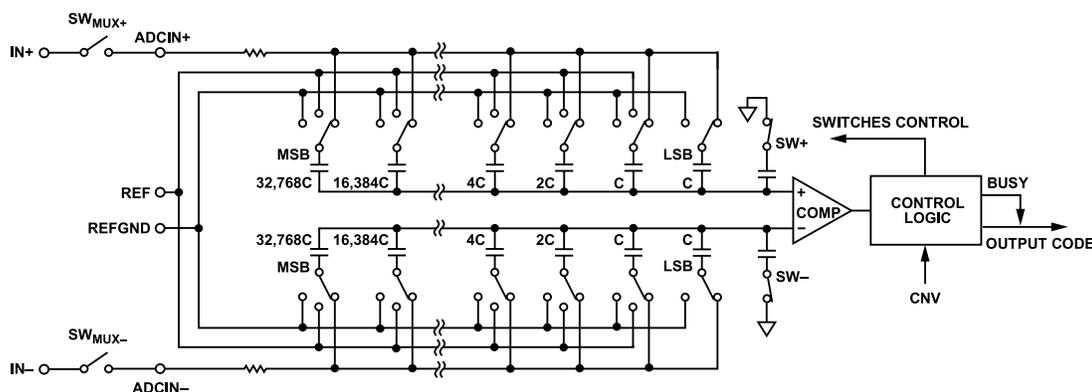
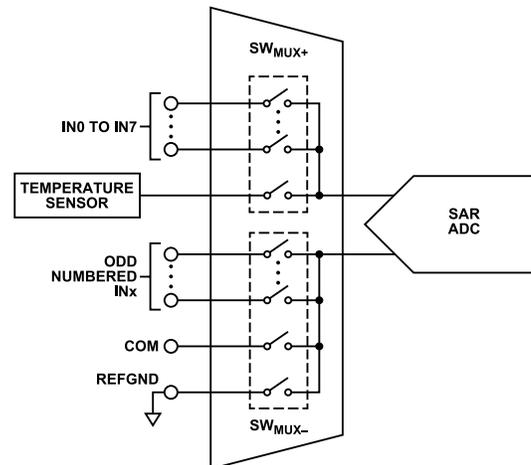
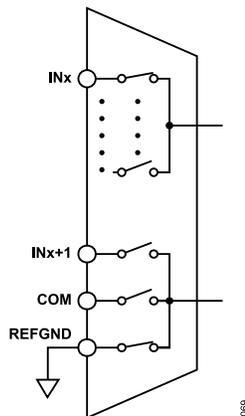

Figure 63. ADC Simplified Schematic
Figure 67. Multiplexer Simplified Schematic
Figure 68. INx Paired with REFGND
The AD4697/AD4698 contain an SAR-based ADC core that utilizes a charge redistribution digital-to-analog converter (DAC) to quantize the applied input voltage to an output code. Figure 63 shows a simplified schematic of the AD4697/AD4698 SAR ADC core.
The analog inputs and the temperature sensor are connected to the capacitor array inputs (ADCIN+ and ADCIN-) via the internal low crosstalk multiplexer, represented by SWMUX+ and SWMUX- in Figure 63. The multiplexer switches are controlled by the internal channel sequencing logic and are updated once per conversion (see the Multiplexer section and the Channel Sequencing Modes section).
A low crosstalk analog multiplexer routes the signals from the analog input pins to the ADC core inputs. The impedance of the analog inputs is modeled as the parallel combination of the pin capacitance ( $C_{PIN}$ ) and the network formed by the series connection of  $R_{IN}$  and  $C_{DAC}$ .  $R_{IN}$  represents the ADC input series resistance and the multiplexer switch resistance and is typically 240  $\Omega$ .  $C_{DAC}$  represents the ADC sampling capacitive DAC shown in Figure 63 and is typically 60 pF.
The AD4697/AD4698 contain a flexible, low crosstalk analog multiplexer for selecting from the eight analog inputs and internal temperature sensor and routing them to the inputs of the 16-bit, pseudo differential SAR, ADC core. Figure 67 shows a simplified schematic of the internal multiplexer. The  $SW_{MUX+}$  and  $SW_{MUX-}$  switches shown in Figure 63 and Figure 67 represent the multiplexer switches that route the selected channel to the ADC inputs (labeled ADCIN+ and ADCIN- in Figure 63).  $SW_{MUX+}$  and  $SW_{MUX-}$  are break-before-make and are controlled by the internal channel sequencing logic (see the Channel Sequencing Modes section).
The multiplexer allows flexible analog input channel configuration. The  $SW_{MUX-}$  position is user programmable and can be assigned to any of the pins shown in Figure 67 (see the Channel Configuration Options section).
The channel configuration settings include pin pairing assignments and signal polarity modes. The pin pairing options assign the position of  $SW_{MUX-}$  for each position of  $SW_{MUX+}$  and determine which signal is routed to the negative side of the SAR ADC core (ADCIN- in Figure 63). The signal polarity modes configure the ADCIN- voltage range. Figure 68 shows the pin pairing and voltage ranges for the different channel configuration options.
- ▶ Figure 68, IN0 to IN7 paired with REFGND
When the temperature sensor is selected, the multiplexer  $SW_{MUX+}$  switch (see Figure 67) selects the temperature sensor output and its  $SW_{MUX-}$  switch selects REF\_GND, and the SAR ADC core samples  $V_{TEMP}$  to generate a corresponding output code. The analog-to-digital conversion of the temperature sensor output utilizes the same transfer function as an analog input configured in unipolar mode with  $OSR = 1$  (see the Transfer Function section).